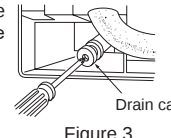

Figure 3
- Put the drain cap into the section to which the drain hose is to be attached at the rear of the indoor unit. (Figure 3)